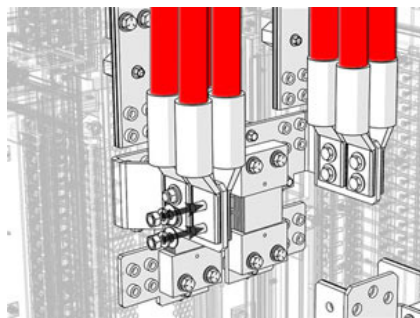

Figure 8. HOT Input Cable Termination
- Step 2. Install the hot input cables/lugs to hot input positions 1-2 (see Figure 8 on Page 9).
- Step 3. Install the hot input cables/lugs to hot input positions 1-2 (see Figure 8 on Page 9).
- Step 2. Install the hot input cables/lugs to hot input positions 1-2 and 5-6 (see Figure 8 on Page 9).
- Step 3. Install the hot input cables/lugs to hot input positions 1-2 and 5-6 (see Figure 8 on Page 9).
- Step 2. Install the hot input cables/lugs to all eight hot input positions (see Figure 8 on Page 9).
- Step 3. Install the hot input cables/lugs to all eight hot input positions (see Figure 8 on Page 5).